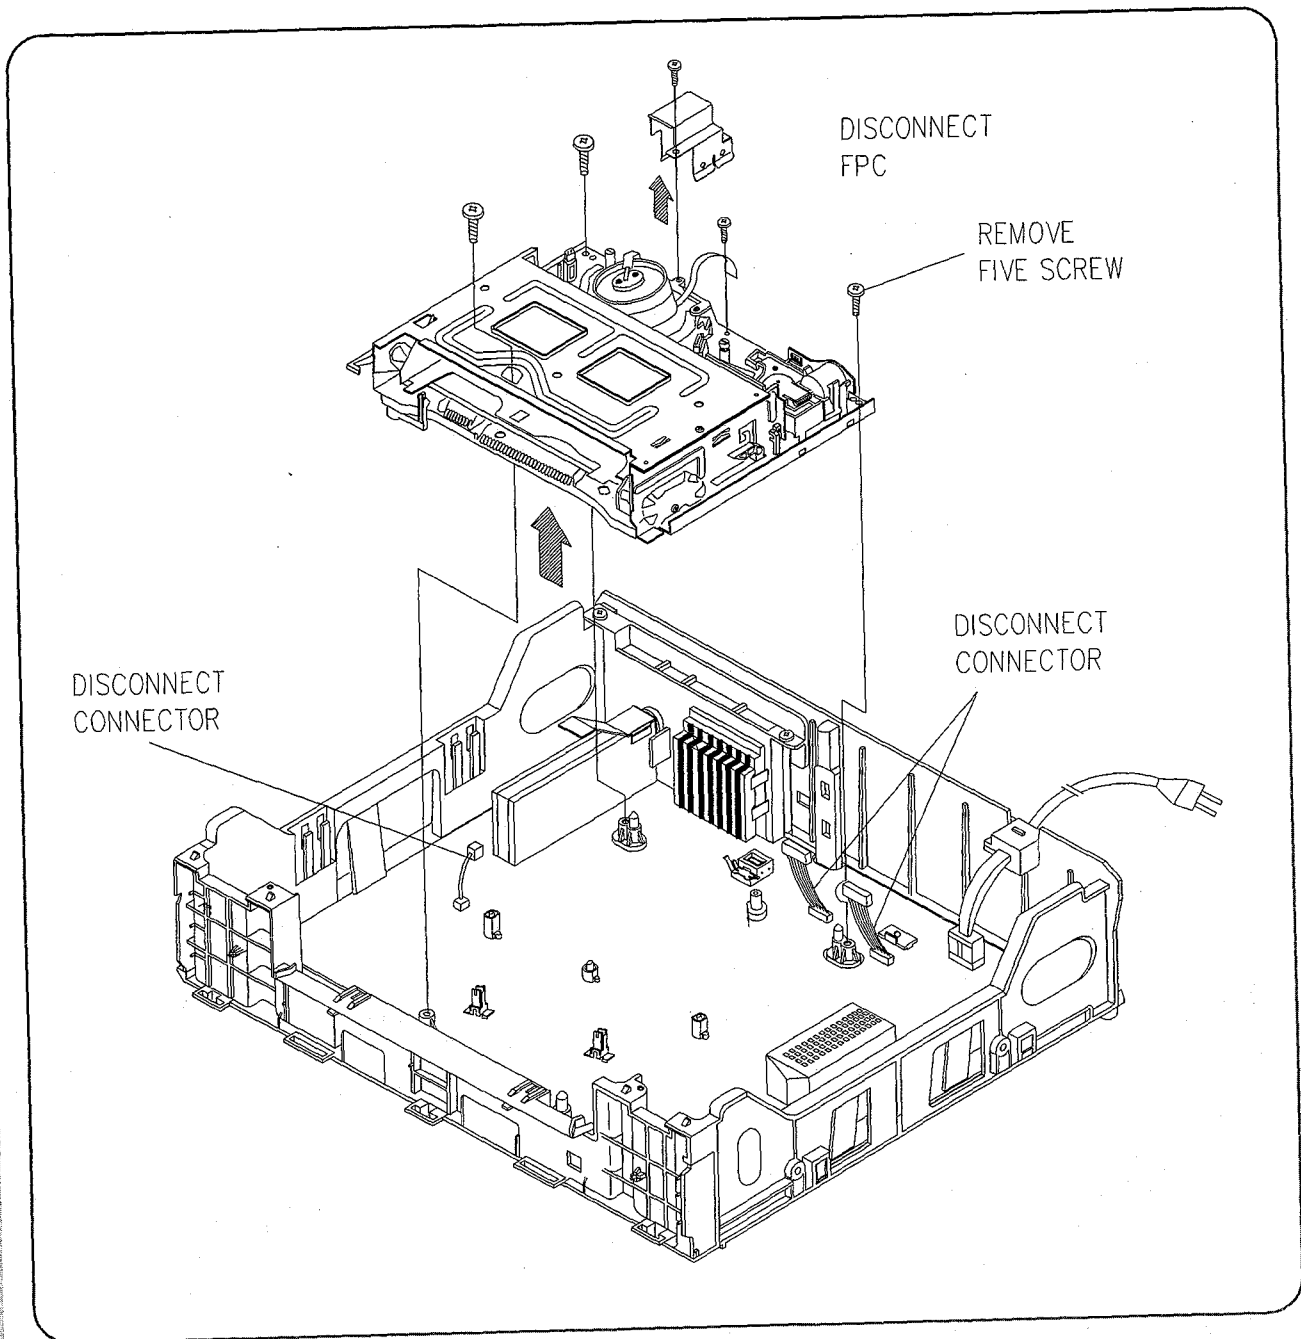

FIG. 6
6. PCB VIDEO AS/PCB SMPS AS REMOVAL (FIG. 6)